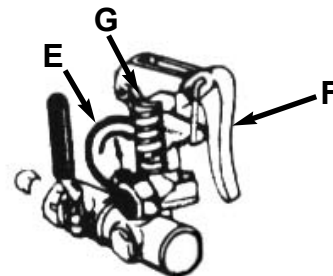

Fig. 3
3. Check the charge pressure (E) on the pulsation dampener before starting the pump. The pressure is checked with a standard automotive air gauge. The pressure should be at approximately **20%** of the maximum operating pressure. (refer to Fig. 3)
4. On the pump you can adjust the pressure by clamping the relief valve adjustment lever (F) down. With the bale hook in the number one position the pressure is about 100 psi; number two is about 250 psi; number three is about 450 psi; number four is about 550 psi. These pressures can be adjusted by using the fine adjustment knob (G) located on top of the relief valve spring. The fine adjustment knob can be rotated when the relief valve lever is in the up position. (refer to Fig. 3)